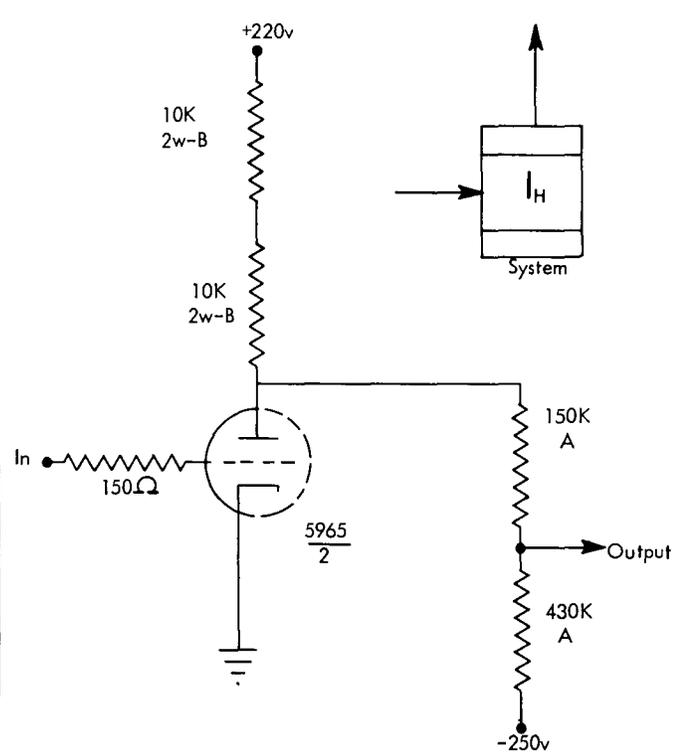

FIGURE B9. INVERTER ( $I_H$ )
The special circuits  $I_H$  and  $PCF_A$  are used to supply driving voltage of opposite polarities to the circuits feeding opposite ends of the moving clutch coil. The  $I_H$  (Figure B9) is designed so that a 40v signal produces a swing of about 140 volts at the plate. The input divider is provided for two purposes: (1) for dividing the two sets of input voltages so that the tube is cut off for the more negative voltages of each set, and conducts for the more positive voltages of each set, and (2) to provide grid current limiting for the upper level voltages. With the tube removed, the divider tends to produce voltages of about -94 volts for +10v input, +60 volts for +150v input and -250 volts for a floating input. The equivalent plate circuit is 24K returned to about +83 volts. The large resistance in the plate circuit is used to provide a large plate swing.